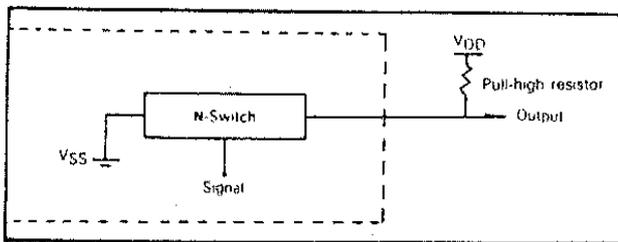

Figure 1
1) N-channel open drain output —  $\overline{DP}$  (figure 1).